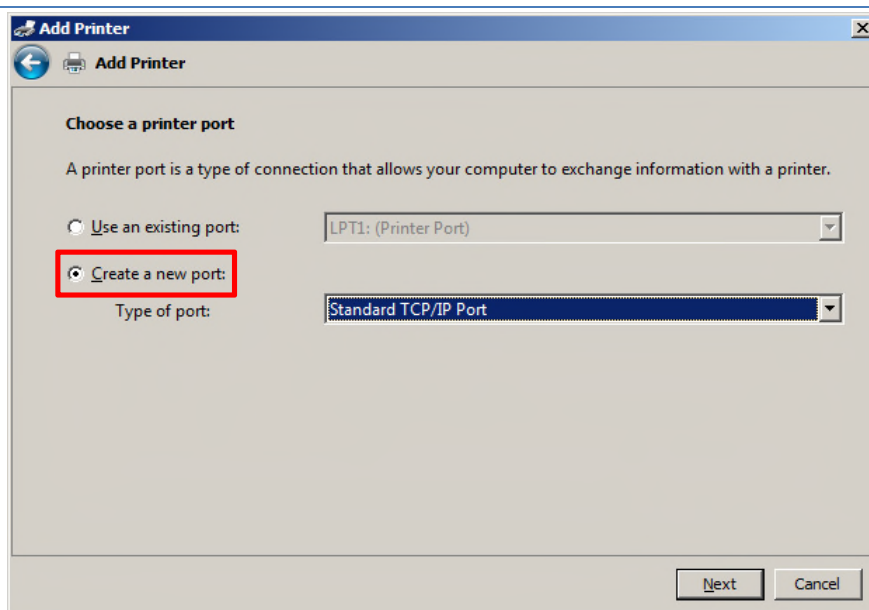

Figure 10.33 – Configure Local TCP/IP port settings
- 15) On the next window for Hostname or IP address enter the Hostname or IP address of the printer you want to add. Port name should automatically fill in as you enter the IP address as shown below in Figure 10.33. Make sure the **“Query the printer and automatically select the driver to use”** box is checked. Hit **next**.